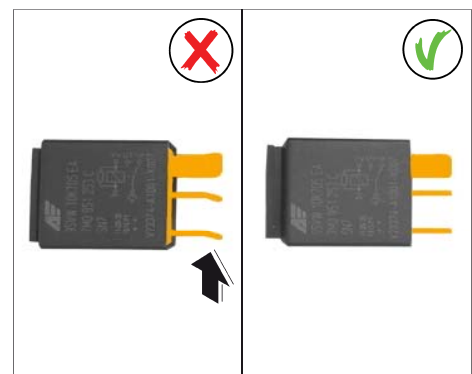

Figure 3
**If** one of the flat plugs on the relay is bent ⇒ Figure 3 -arrow-, the relay **must be replaced**.